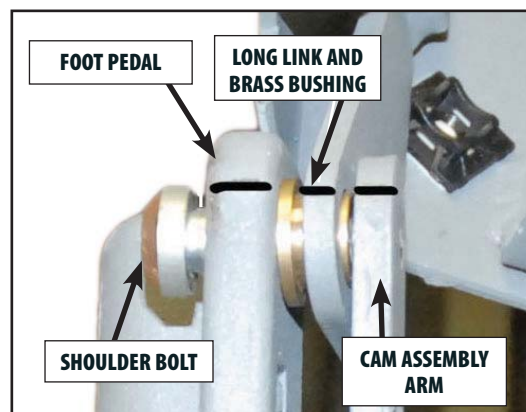

FIGURE 6.55
1. Thread the Shoulder Bolt through the Retractable Caster Pedal, Brass Bushing, Long Link and Cam Assembly on one side of the table to free the Cam. Tighten only enough to hold the Cam Assembly in place. Refer to **Figure 6.55**.